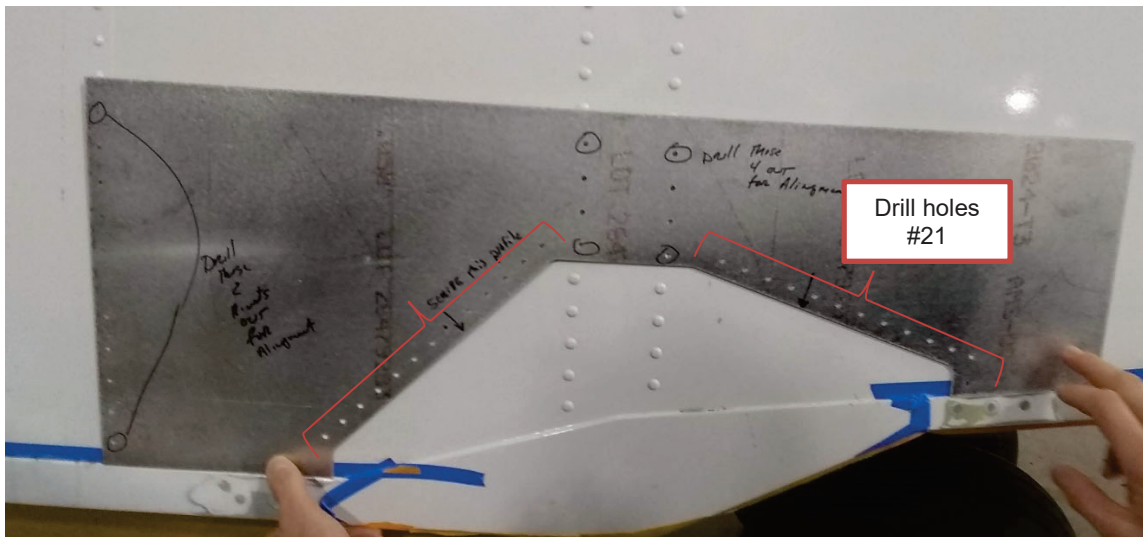

Figure 5
2. Drill out the additional holes with a #21 drill bit (see Figure 5).